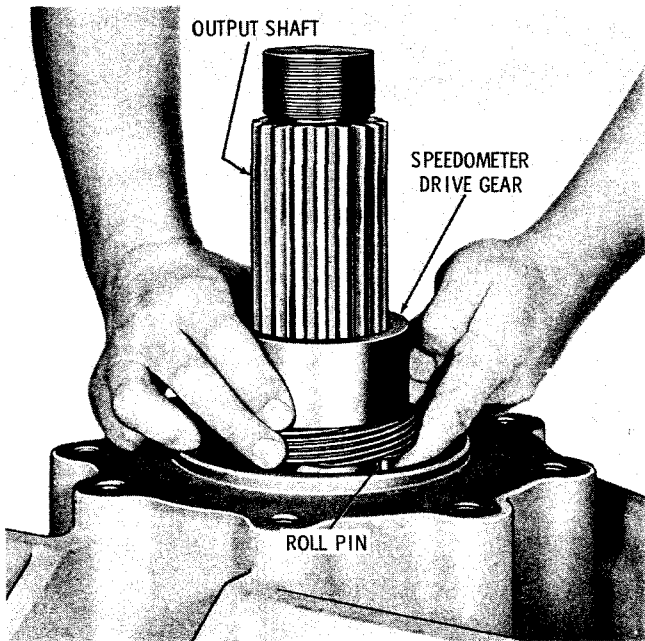

Fig. 5-59. Removing speedometer drive gear
(9) Remove the speedometer drive gear (fig. 5-59) and roll pin from the transmission output shaft. The pin is no longer required and may be discarded. (Later models are equipped with drive gear assembly 75 (A, foldout 17).